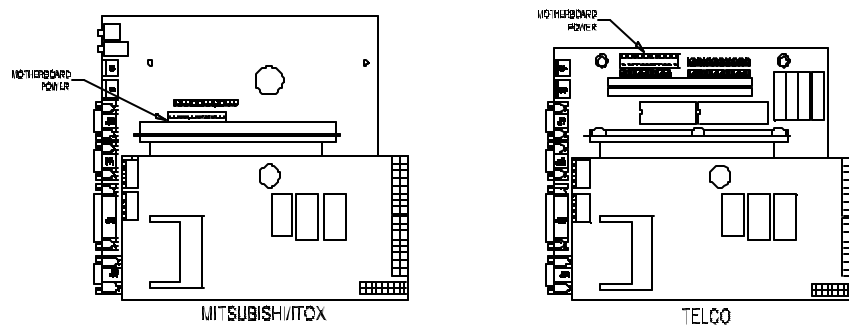

FIGURE 1 - DETERMINING BOARD TYPE
- Using Figure 1, determine the type of CPU board used in your game (either Telco or Mitsubishi/Itox).